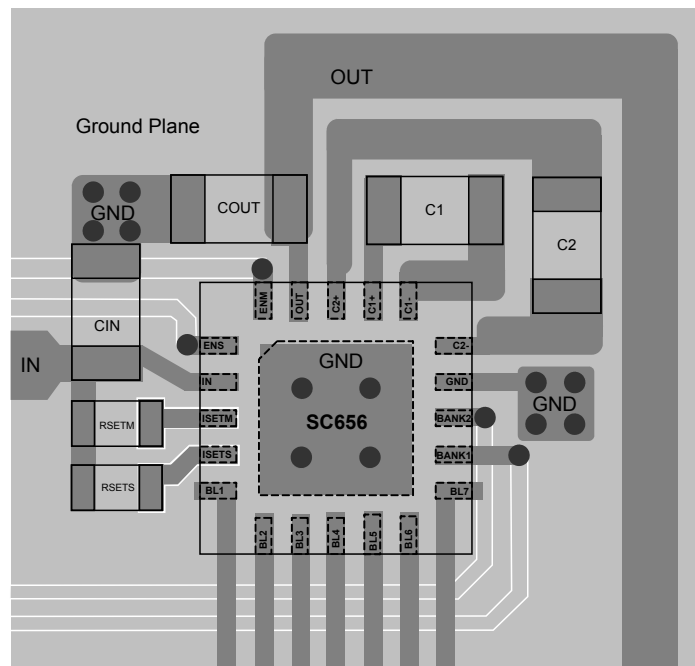

Figure 2 — Recommended Layout
The layout diagram in Figure 2 illustrates a proper two layer PCB layout for the SC656 and supporting components. Following fundamental layout rules is critical for achieving the performance specified in the Electrical Characteristics table. The following guidelines are recommended when developing a PCB layout:
- Resistors  $R_{SETM}$  and  $R_{SETS}$  should be connected as shown in Figure 2, close to pins IN and ISET. The placement and routing shown minimizes parasitic capacitance at the ISET pin.